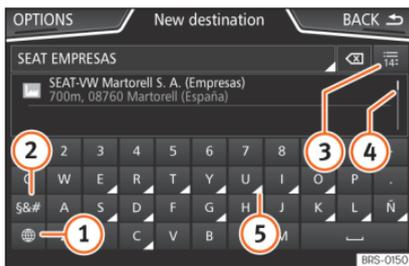

Fig. 205 Input window with on-screen keypad.
Suggestions for matching destinations appear depending on the characters entered in the input line >>> **Fig. 205** ④. In the case of compound names, it is necessary to enter a space.